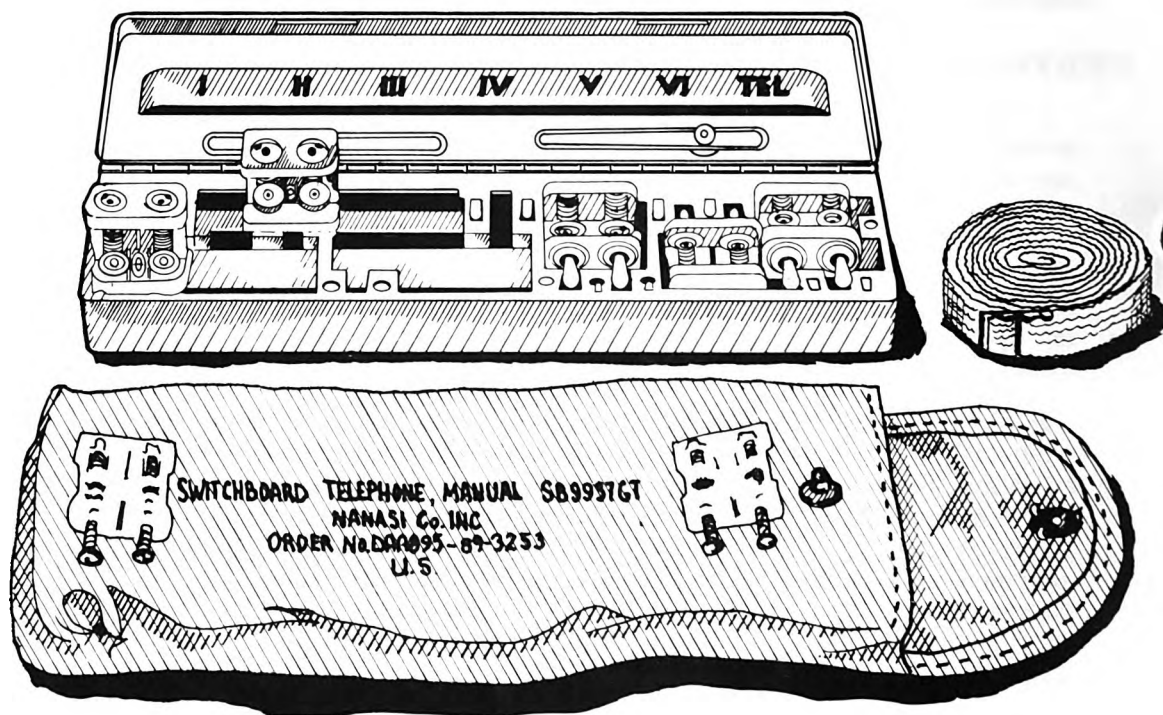

Figure 1.
1. **General.** Manual telephone switchboards are designed for use in several types of operation, such as common battery (CB), local battery (LB), and common battery signaling (CBS). In a common-battery system, the source of electrical energy for speech and ringing signals is located at the switchboard telephone central. In a local-battery system, this source of electrical energy is supplied by the station (both the switchboard and the telephone set). In the other system (CBS, LB operation), the source of power for speech is part of the telephone set; the power for signaling the switchboard is located at the switchboard.
2. **Manual Telephone Switchboard SB-993 ()/GT.** Manual telephone switchboard SB-993/GT (figure 1) is a light, portable local battery switching center normally used in company-size units. It consists of a plug holder and seven two-pronged adapter connectors U-184 ()/GT in a case. A field telephone is required for the operator's use. The SB-993()/GT may be used as an emergency field replacement for any local battery switchboard. Manual telephone switchboard SB-993/GT weighs 2¼ pounds. It will handle an operator's line and six local battery wire circuits. Manual telephone switchboard SB-993/GT consists of --